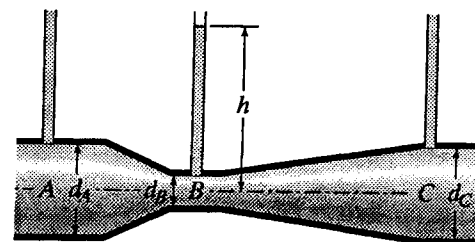

Figure P5.33
- 5.33 In the constricted pipe of Fig. P5.33 friction loss between A and B is negligible while between B and C it is $0.15(V_B^2/2g)$. Given $h = 750$ mm, $d_A = d_C = 250$ mm, $d_B = 100$ mm. Find the pressure heads at A and C if the liquid is flowing through the circular pipe from A to C at the rate of 280 L/s.